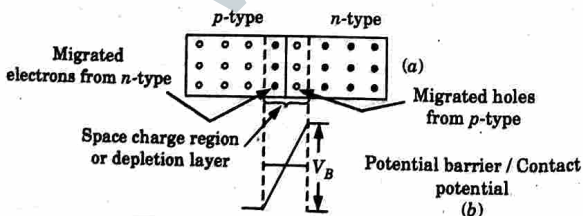

Fig. 3.16.1. p-n junction semiconductor.
2. When p-type material is intimately joined (diffused) to n-type, a p-n junction is formed. Fig. 3.16.1 shows the p-n junction formation.